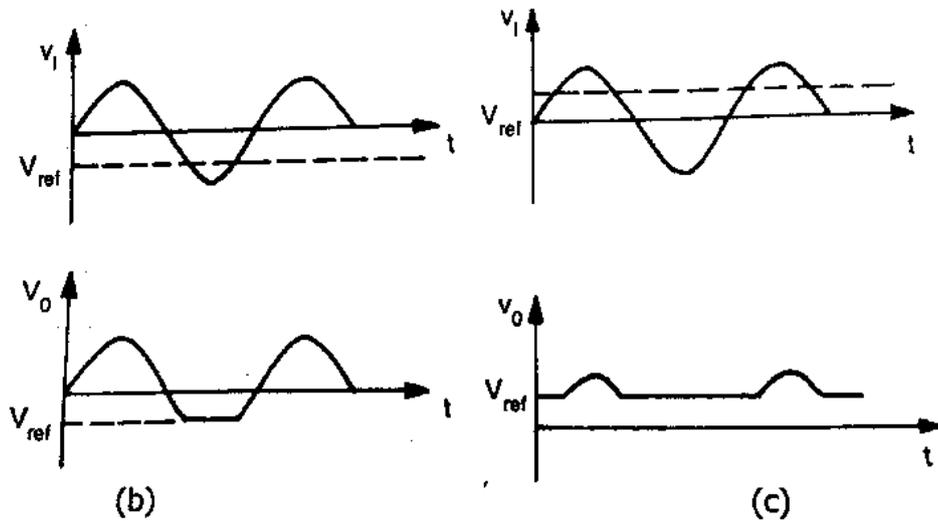

Fig. 3.47 Input-output waveforms for negative and positive V_{ref}
- The circuit diagram of a negative clipper and the expected waveforms for negative V_{ref} , and positive V_{ref} , are shown in Fig.3.47 (a, b).